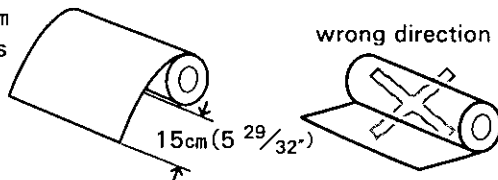

Fig. 2
2 (1) Load the copy paper roll. (Fig. 2)